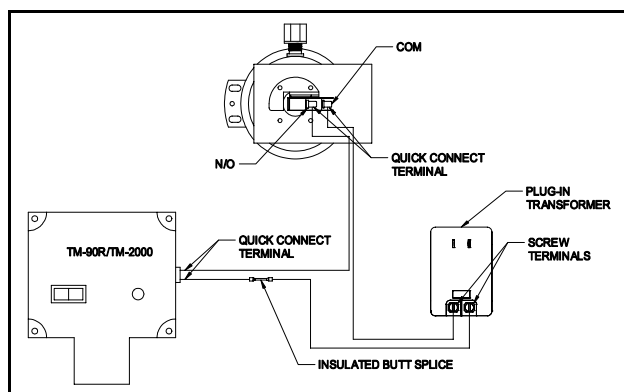

Figure 7
10. Refer to the wiring diagram to determine the proper wiring connections. Attach all of the wires as indicated in the diagram. Use the wire clamp to make sure that the wires cannot be pulled loose from the pressure switch. Place a loose knot in the wire inside the junction box if necessary. Secure the box cover to the box when complete. (See Figure 7)